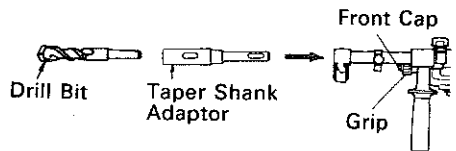
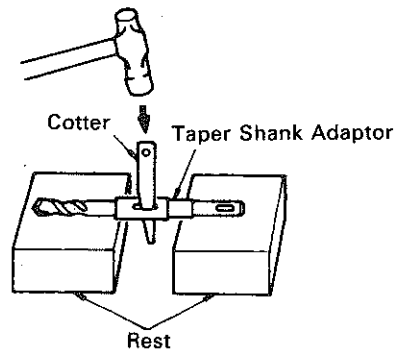

Fig.18
Fig.19
- (1) Mount the taper shank adaptor to the rotary hammer. (Fig. 18)
- (2) Mount the drill bit (taper shank) to the taper shank adaptor. (Fig. 18)
- (3) Turn the switch ON, and drill a hole in prescribed depth.
- (4) To remove the drill bit (taper shank), insert the cotter into the slot of the taper shank adaptor and strike the head of the cotter with a hammer supporting on the rest. (Fig. 19)